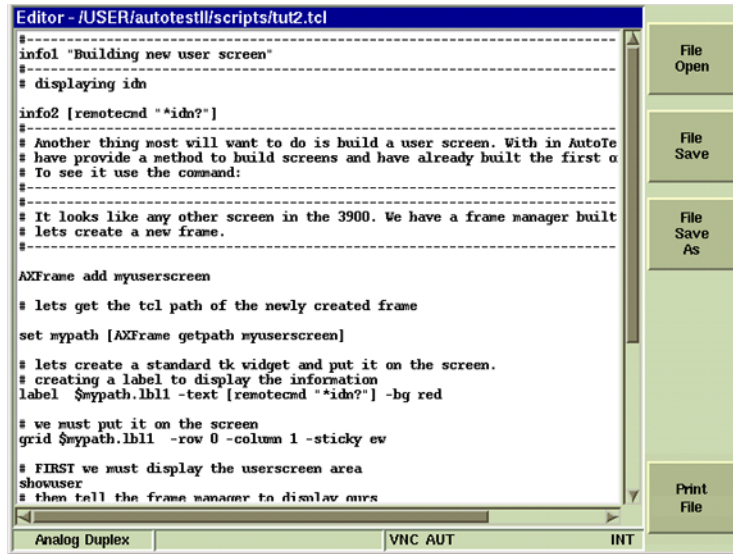

Fig. 6-8 Script File in Editor Mode
6. The screen displays contents of selected file as shown in Fig. 6-8.